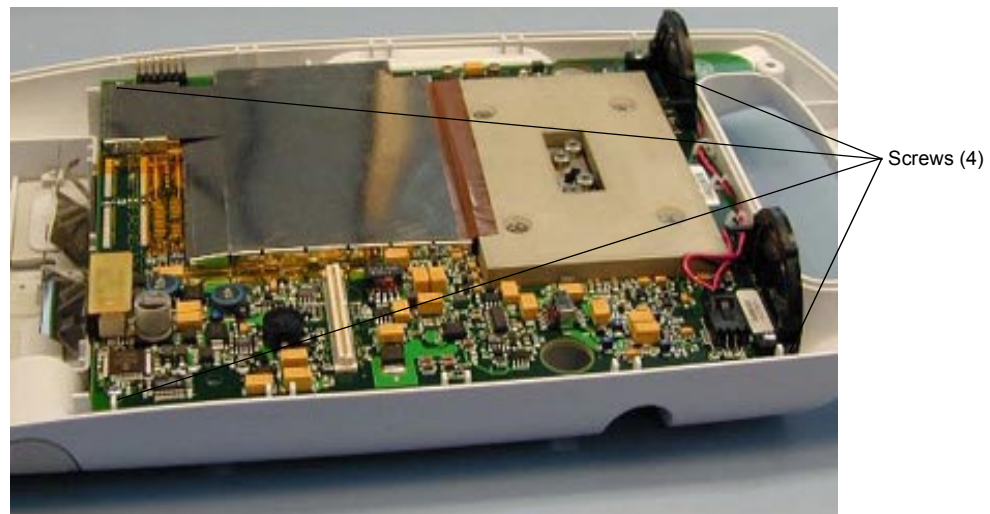

Figure 7.21 Securing the Main PCBA to the Bottom Housing
- 2 Secure the four screws that connect the Main PCBA Subassembly to the bottom housing (Figure 7.21). Torque the screws to 3.6 in./lb. (0.4 newton meter).